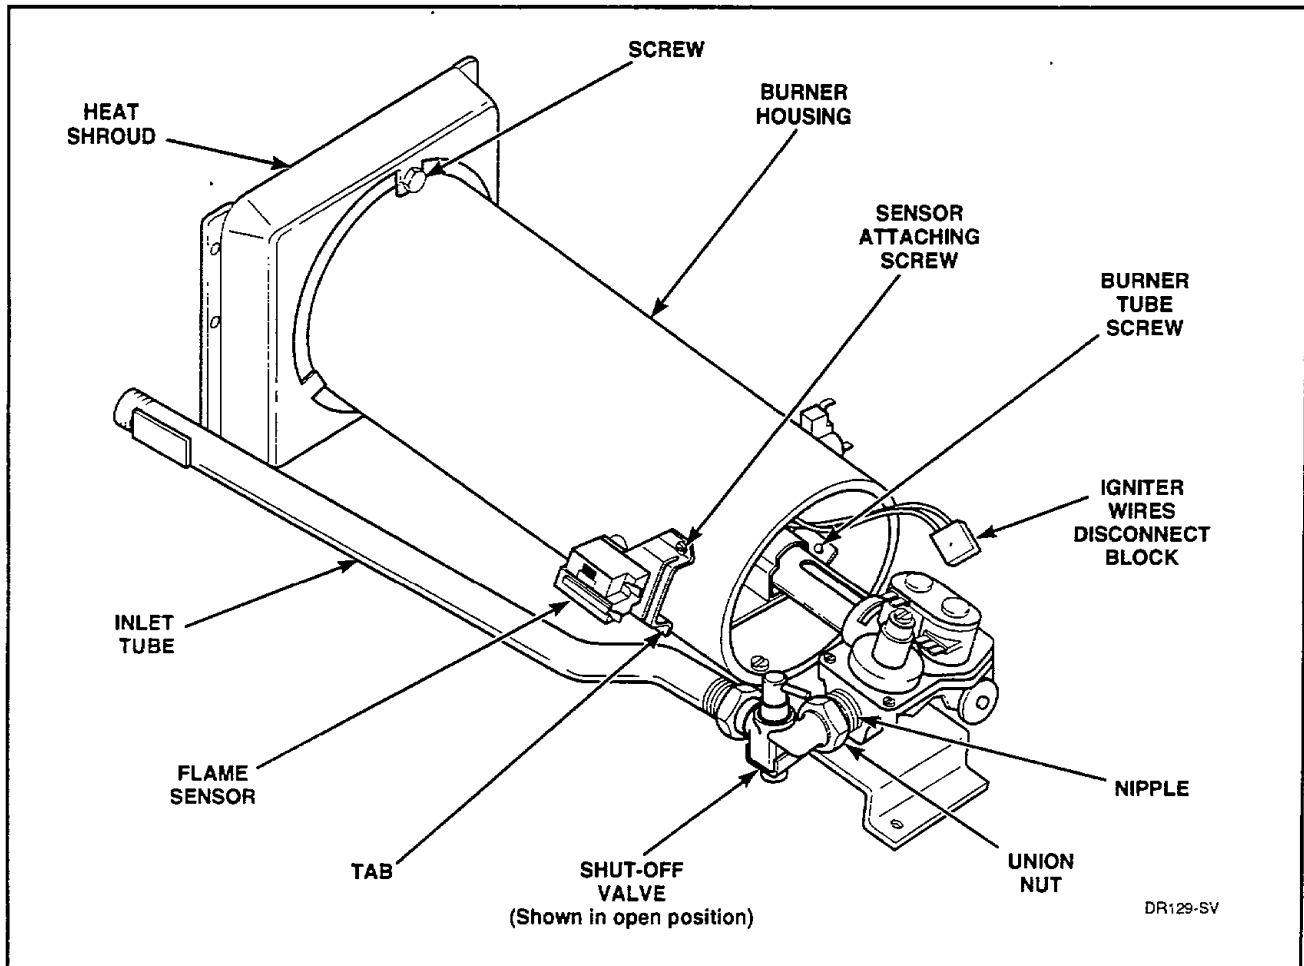

Figure 51
- Close gas shut-off valve, *Figure 51*.
- Remove wires from sensor terminals, *Figure 51*.
- Disconnect igniter wires at disconnect block, *Figure 51*.